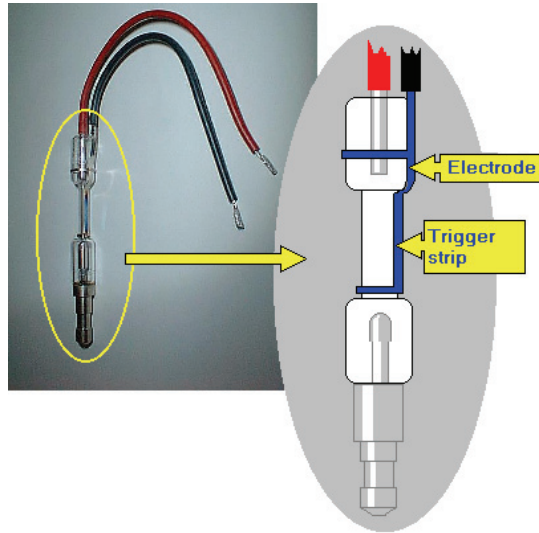

Figure 72 Details of the electrode
5. Lift the main cover and rest it on the stay located on the right-hand side, as shown in Figure 72.